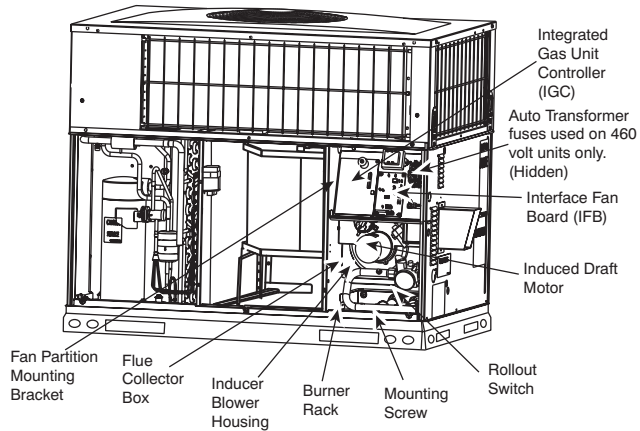

Fig. 32 – Blower Housing and Flue Collector Box
2. Remove the 11 screws holding the flue collector box cover (See Fig. 32) to the heat exchanger assembly. Inspect the heat exchangers.
Unit is equipped with a direct spark ignition 100 percent lockout system. Ignition module (IGC) is located in the control box (See Fig. 32). Module contains a self-diagnostic LED. During servicing, refer to label diagram or Table 14 in these instructions for LED interpretation.
5. Remove fan partition mounting bracket (2 screws located on the left side of control compartment on the fan partition panel). Slide bracket forward, bottom first, to remove. (See Fig. 32.)
7. Remove the mounting screw that attaches the burner rack to the unit base (See Fig. 32).
8. Partially slide the burner rack out of the unit (see Fig. 32 and 35). Remove ignitor and sensor wires at the burner assembly. Remove wires to rollout switch.
9. Slide the burner rack out of the unit (See Fig. 32 and 35).